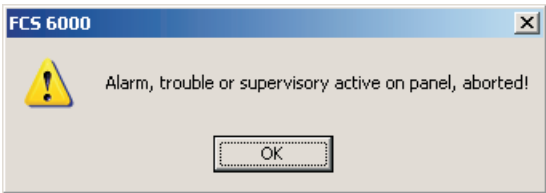

Figure 4-23. Clear Event Log Abort
**Note:** If the control unit is in alarm, trouble or supervisory condition, clearing the event log is aborted and a notification (Figure 4-23) is displayed.